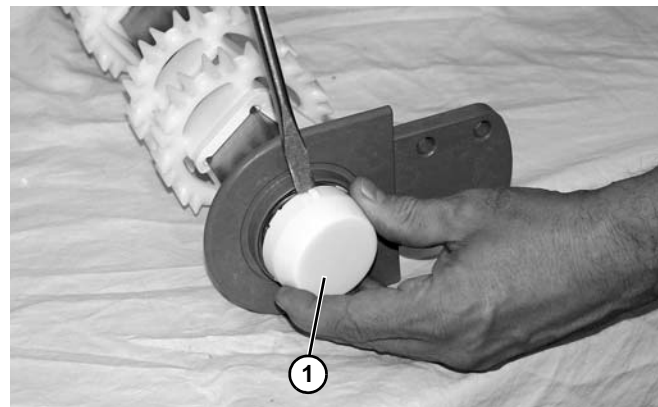

Figure 48
6. Remove the bearing cover (**Figure 48, item 1**).